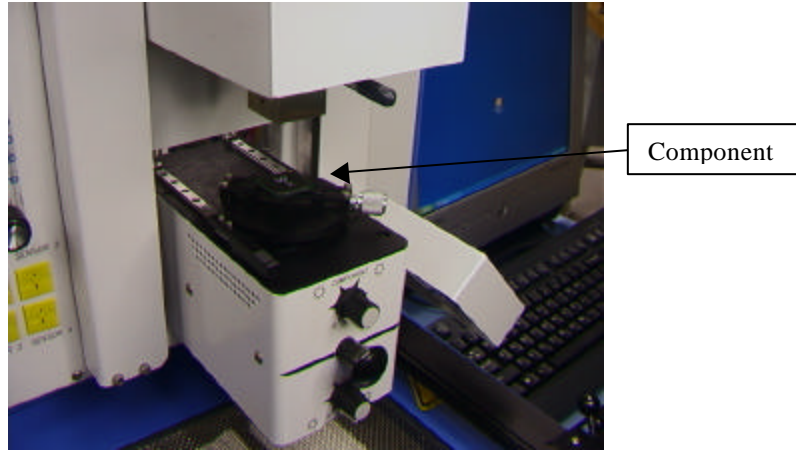

Figure 17a
- ix. Place the component in the mounting plate on top of the camera housing. (Figure 17a)